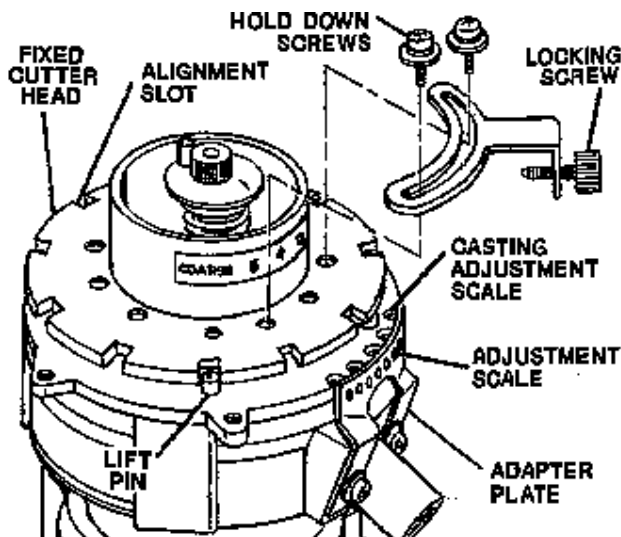

FIGURE 618
9. Reinstall the locking device removed in step 4 with the locking screw in the far right hole position on the adjusting scale (see Figure 618 & 620). Tighten the two screws securing the locking device to the top of the fixed cutter head.